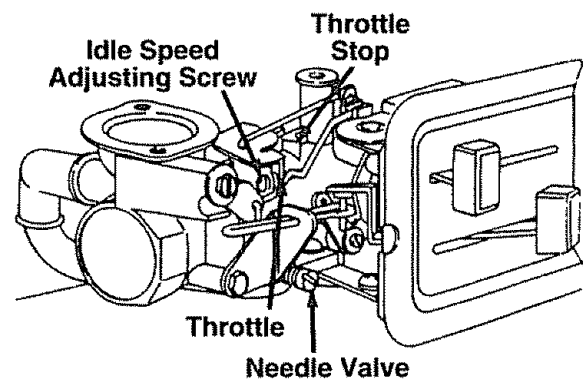

FIGURE 22.
- Close needle valve (see figure 22) clockwise (↻) finger tight only. Forcing may cause damage. Then open 1-1/2 turns counterclockwise (↺).